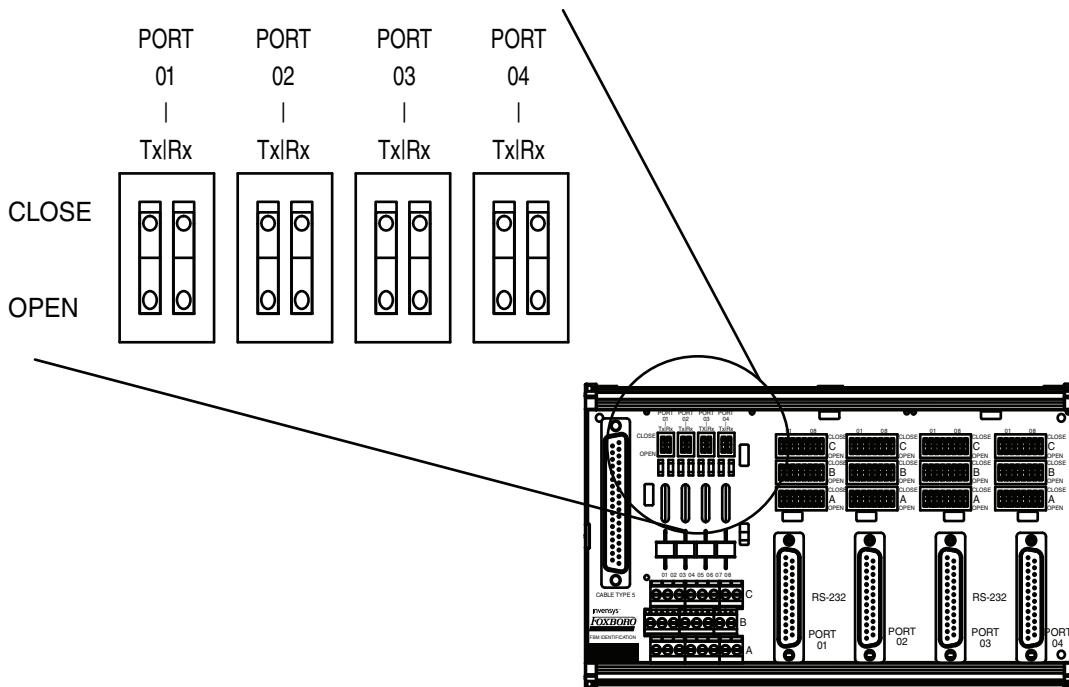
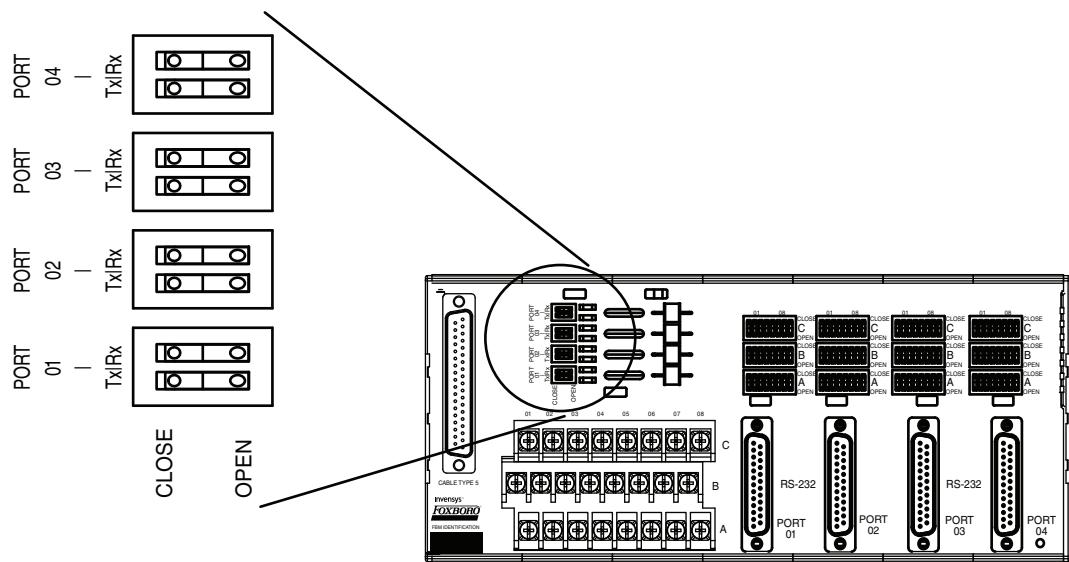

Figure 4-31. Compression Screw TA RS-422 and RS-485 Termination Switches
Figure 4-32. Ring-Lug TA RS-422 and RS-485 Termination Switches
- f. Set all RS-422/RS-485 bus termination switches for the channel to the open position (see Figure 4-31 and Figure 4-32 on page 56).
2. Press the required termination switch on the TA to the CLOSE position (termination) (refer to Figure 4-31 for compression screw TAs and Figure 4-32 for ring-lug TAs) for each cable requiring termination. This provides line termination by inserting termination resistors across the line.
3. Terminate Ports 1, 2, 3 and/or 4 (if used) in the same manner (see Figure 4-31 or Figure 4-32).